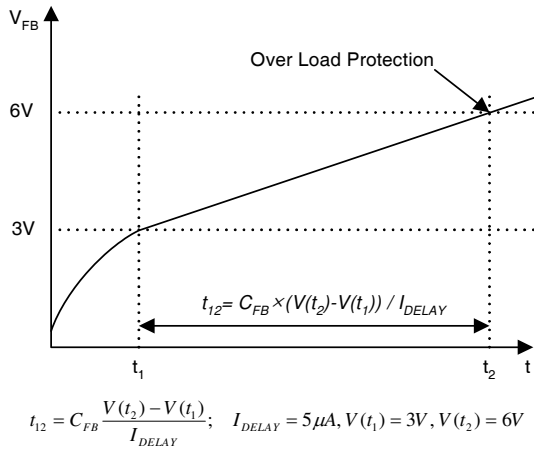

Figure 6. Over Load Protection (OLP)
4.1 Over Load Protection (OLP): Overload is defined as the load current exceeding a pre-set level due to an unexpected event. In this situation, the protection circuit should be activated in order to protect the SMPS. However, even when the SMPS is operating normally, the Over Load Protection (OLP) circuit can be activated during the load transition. In order to avoid this undesired operation, the OLP circuit is designed to be activated after a specified time to determine whether it is a transient situation or an overload situation. In conjunction with the I_{pk} current limit pin (if used) the current mode feedback path would limit the current in the Sense FET when the maximum PWM duty cycle is attained. If the output consumes more than this maximum power, the output voltage (V_o) decreases below its nominal voltage. This reduces the current through the optocoupler LED, which also reduces the feedback voltage (V_{FB}). If V_{FB} exceeds 3V, the feedback input diode is blocked and the 5 μ A current source (I_{DELAY}) starts to slowly charge C_{fb} up to V_{cc} . In this condition, V_{FB} increases until it reaches 6V, when the switching operation is terminated as shown in Figure 6. The shutdown delay time is the time required to charge C_{fb} from 3V to 6V with 5 μ A current source.